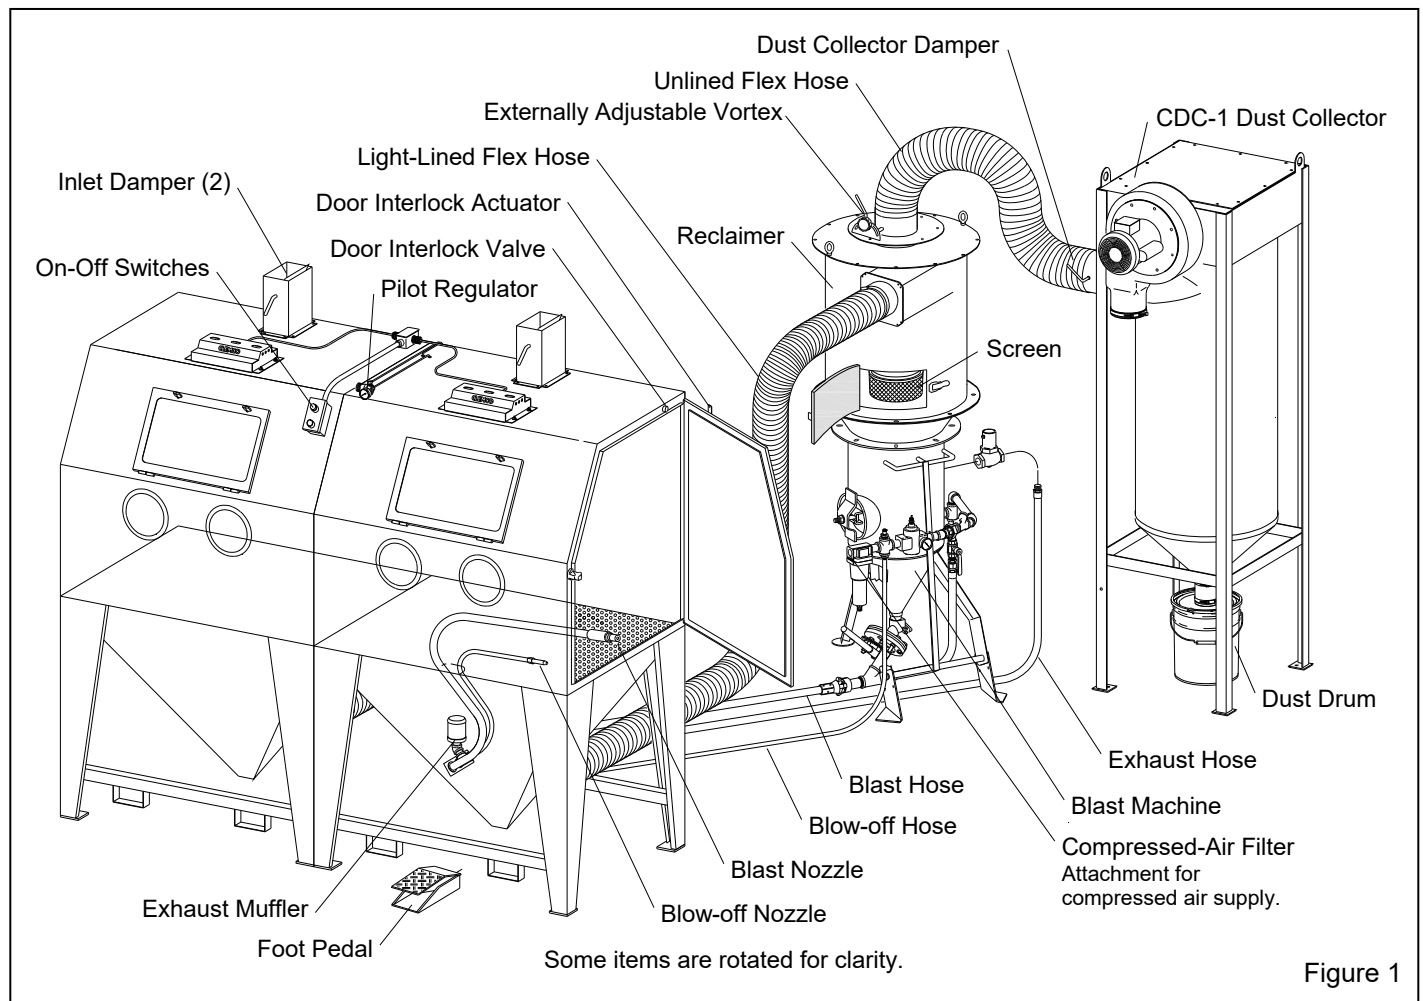
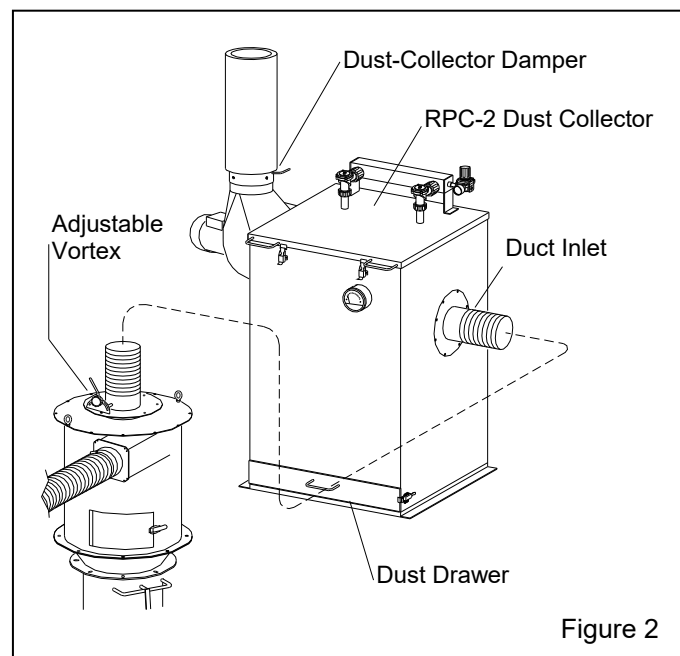

Figure 1
Figure 2
1.4.3 Refer to Figure 1 for arrangement of components with a CDC-1 dust collector. Figure 2 shows the arrangement with an RPC-2 reverse-pulse dust collector with dust drawer. The optional RPH-2 are set up the same way as the RPC-2, but includes a
1.7.1 CDC-1 Dust Collectors: Shown in Figure 1, the collector is available in 900 cfm models. The single filter cartridge is cleaned by using a manually controlled pulse of compressed air. Dust collects in a 5-gallon dust drum, which must be frequently emptied. Refer to manual number 28225.
1.7.2 RPC-2 Dust Collectors: Shown in Figure 2, this collector is available in 900 cfm models. Dual filter cartridges are automatically cleaned by a timed, periodic pulse of compressed air. Dust collects in the drawer, and it must be frequently emptied. Refer to manual number 22788.
1.7.3 RPH Dust Collector: The RPH-2 is set up and operate the same as the RPC-2, as shown in Figure 2, but instead of a dust drawer, the collector sits atop a hopper, which provides additional dust storage, and empties into a 30-gallon drum. Refer to manual number 21449.
2.1.1 Refer to Figure 1 (and Figure 2 for optional RPC-2 reverse-pulse collector) for the general arrangement and Figure 5 for the control line schematic. Select a location where compressed air and electrical service are available. The cabinet location must comply with OSHA and local safety codes. Allow for full access to all doors and service areas and for efficient handling of large parts. Provide enough clearance in front of the dust collector to remove the dust drawer without tipping. Ideally, locate the blast machine directly behind the cabinet with the blast hose connection toward the